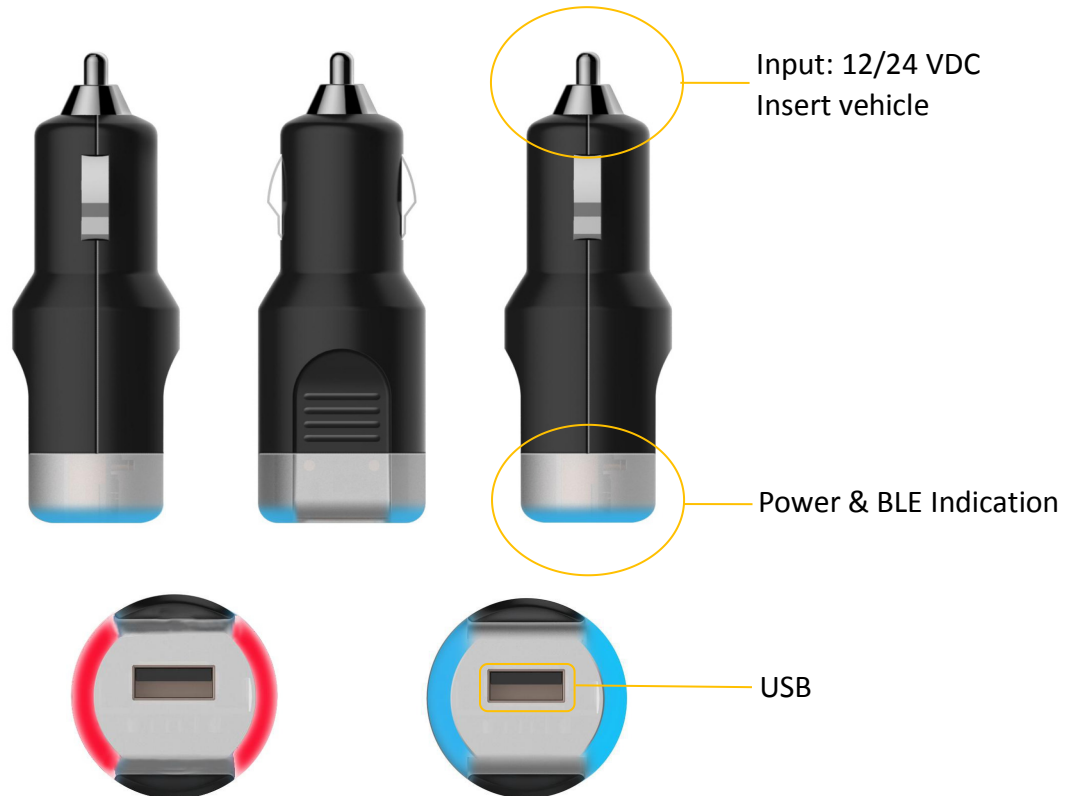

Figure 1
1. Supply 12/24 VDC or insert vehicle, then the LED will be red. As shown in figure 1.